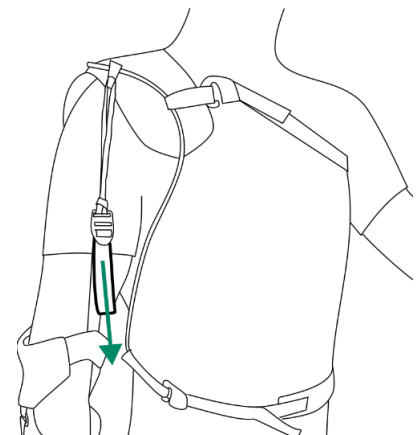

Figure 5
7. Tighten the elastic bands by pulling the band tensioners down as far as possible (Fig. 5).